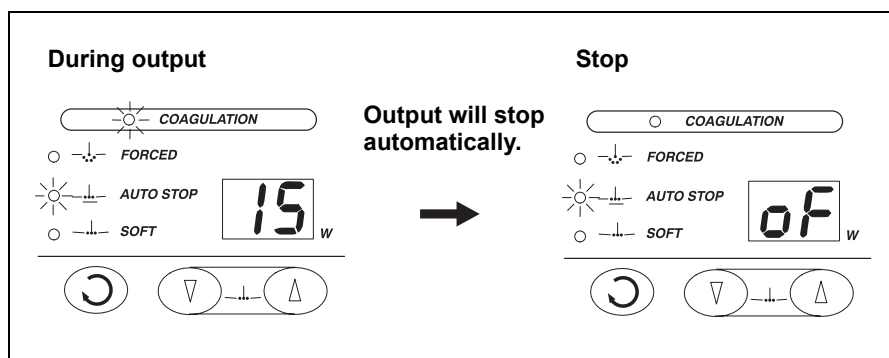

Figure 5.9
3. Output will take place while the foot switch is pressed. During output, the output indicator will light and the output sound will be heard. Output will stop when the switch is released. However, if the AUTO STOP mode is selected, coagulation output will stop automatically while the pedal is pressed (see Figure 5.9).